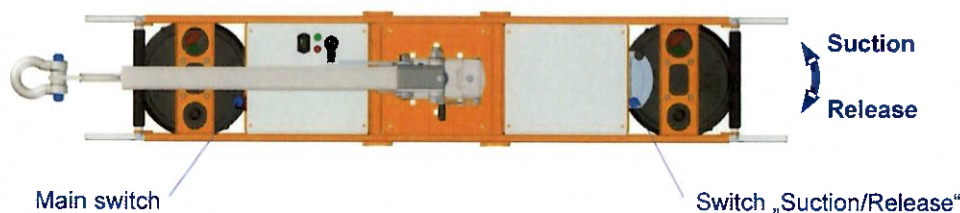

Fig. 7: Switch „Suction/Release“
The OKTOPUS® GLASS-Jack GL-LN 600 is operated on the device according to fig. 7.
**To avoid unintended load rotations, make sure that the unlocking lever “Rotate” (see fig. 7) is latched. The unlocking lever “Tilting” has to be released and the crane arm to be upright!**
- ⇒ Now the suction of the construction element is performed. Therefor slightly lift the switch “Suction/Release” (see fig. 7), and then shift it towards “Suction” until it latches (see also pt. 3.5 “Start-up”).
- ⇒ Now the suction of the construction element is performed. Therefor slightly lift the switch "Suction/Release" (see fig. 7), and then shift it towards "Suction" until it latches (also see pt. 3.5 "Startup").